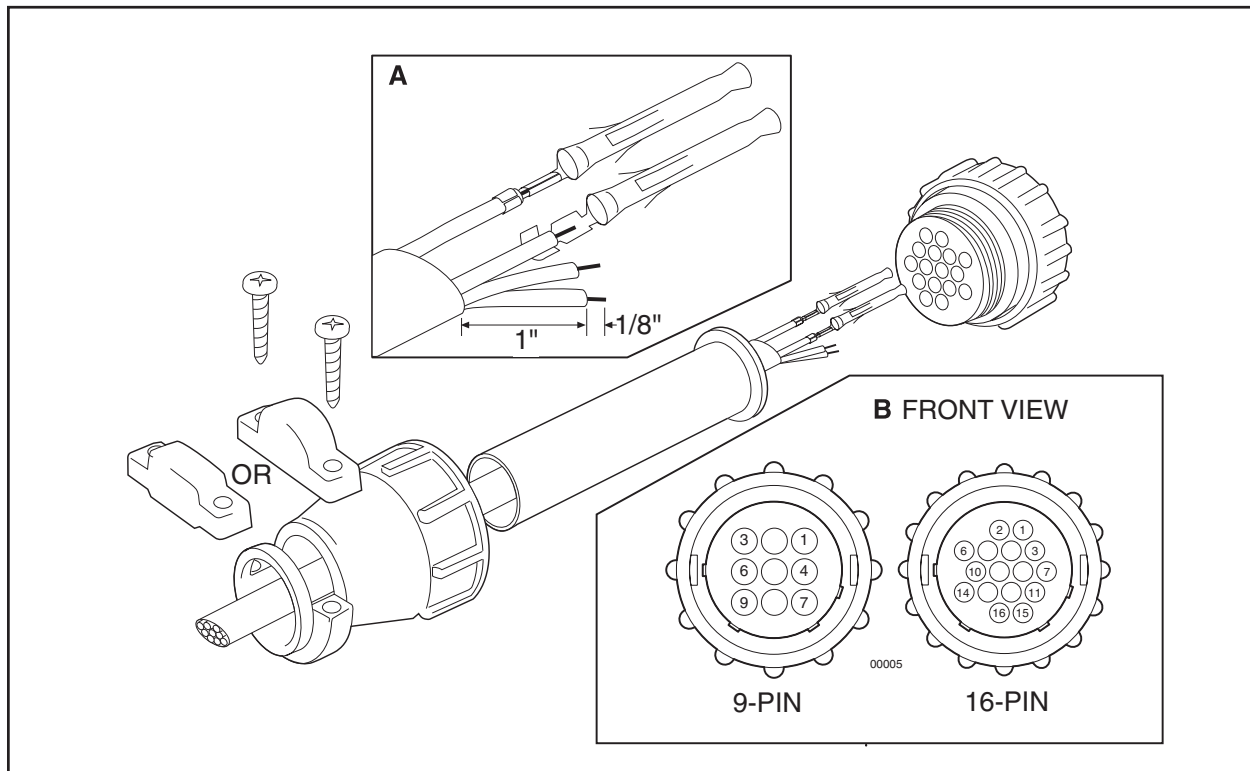
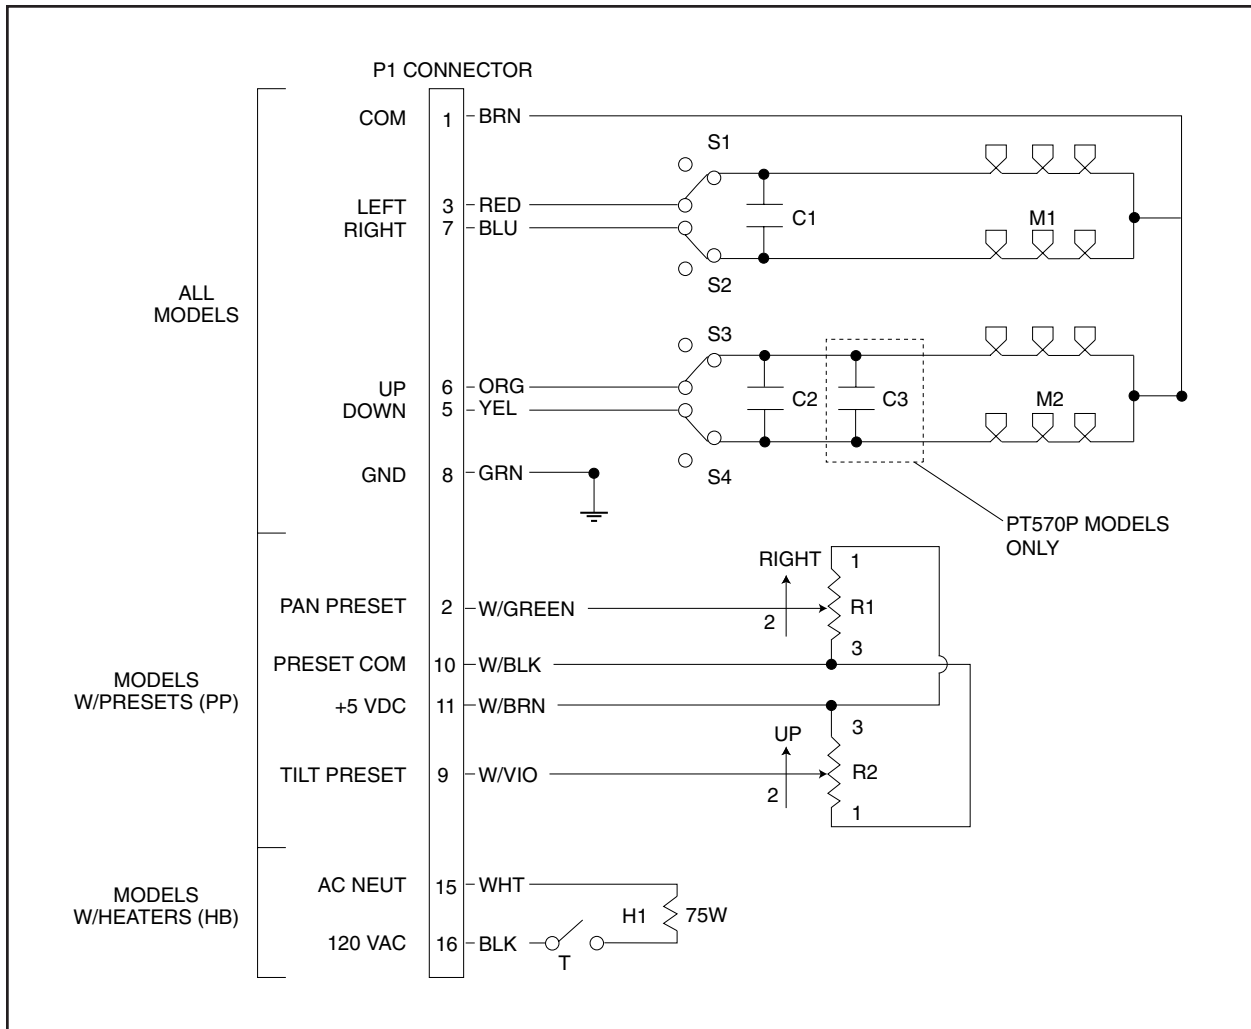

Figure 2. Connector Assembly
Figure 3. PT570P/PT570-24P Series Wiring Diagram
To assemble the mating connectors, refer to Figure 2 and perform the following steps.
2. Refer to Detail A in Figure 2. Prepare the wires from the conductor cable as follows:
3. Slide the connector pins into the appropriate holes in the connector body until they snap into place. Refer to detail B in Figure 2 and to Figure 3 for correct pin arrangement, depending on model and options.
Refer to Figure 3 for the following steps.